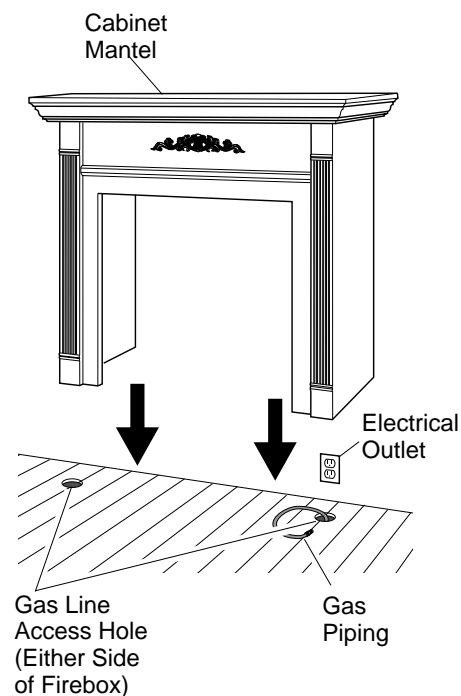

Figure 10 - Installing Cabinet Mantel
- If using an optional GA3700 Blower (circulating models only), install a properly grounded, 120 volt three-prong electrical outlet at firebox location if an outlet is not there. If possible, locate outlet so cabinet mantel will cover it when installed (see Figure 10).
- Install gas piping to firebox location. See *Installing Gas Line*, page 10. You may have to cut an access hole in the floor or wall to run gas line to firebox. Make sure to locate access hole so cabinet mantel will cover it when installed (see Figure 10).